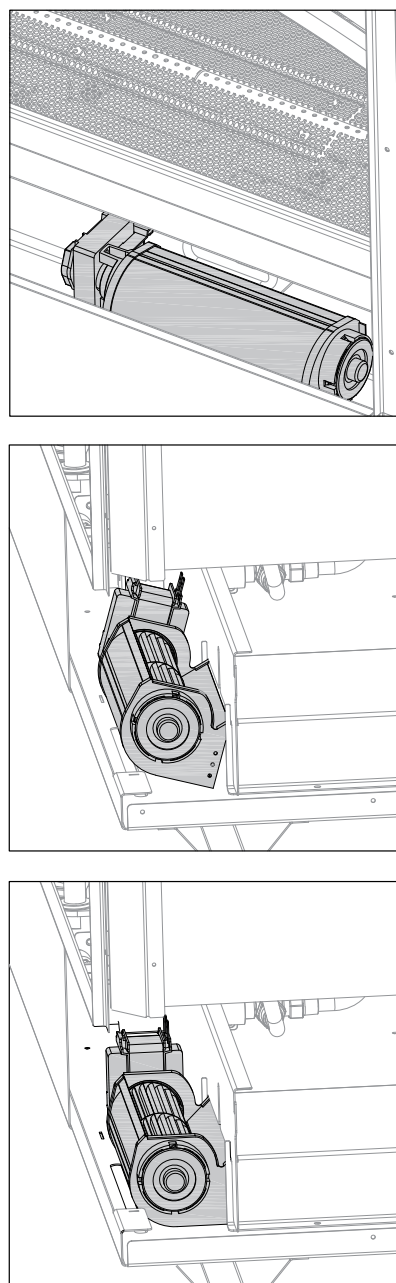

FIGURE 9.3 Steps 5 through 9
5. Rotate the top end down and to the right, lowering the fan into control compartment (FIGURE 9.3).
6. Position fan as shown in FIGURE 9.3. As you rotate the fan towards you, the upper edge of the fan discharge will lock behind the top edge of fireplace air channel opening, securing fan into place. DO NOT LET THE FAN REST ON ANY ELECTRICAL CORDS.